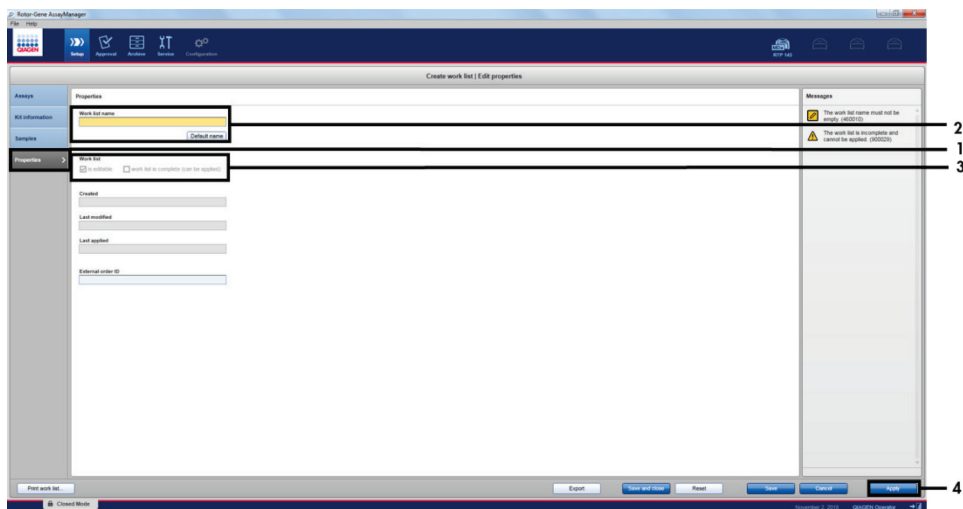

Figure 11. Create work list main window. 1 = "Properties" tab, 2 = Enter work list name, 3 = Select "is editable" and the "work list is complete", 4 = "Apply".
7. Click the Properties tab and enter the name of the work list. Once the work list name has been entered, ensure that the **is editable** and the **work list is complete** boxes are checked. Then, click **Apply** in the bottom right-hand corner to apply the work list (Figure 11).